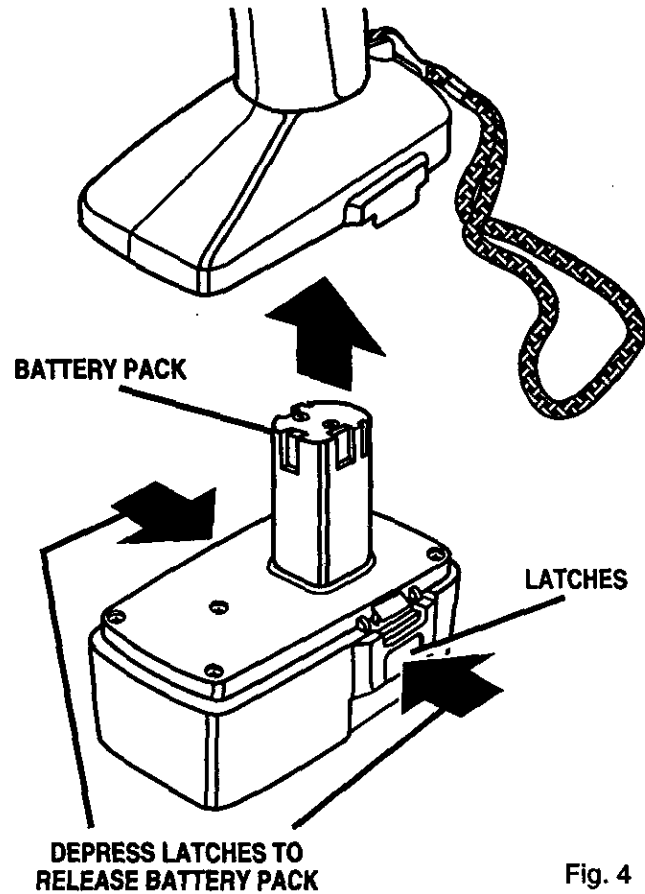

Fig. 4
- Place battery pack in your drill. Align raised rib inside drill with groove on battery pack. See Figure 4.
- Locate latches on end of battery pack and depress to release battery pack from your drill. See Figure 4.